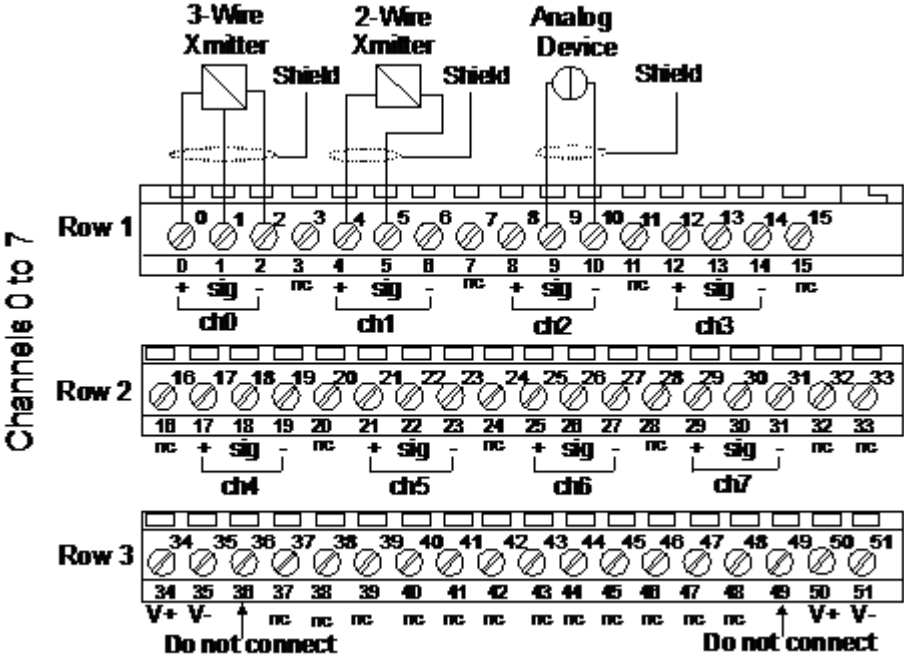

Figure 10: Typical Analog Input module connections.
- 1 Observing polarity, connect the leads from an analog input device in the current range of 0 to 22mA to the +, Sig, and - terminals for channels 0 to 7. The connection scheme is input source to the + terminal, input signal to the Sig terminal, and input return to the - terminal. Refer to Figure 10 for typical transmitter connections.
Do **not** use the unused terminals (3, 7, 11, 15, 20, 24, 28, 32, 37, 38, 39, 46, 47, 48) with an Analog Input module on this Terminal Base unit. Using these terminals for any purpose can result in damage to the module and/or unintended operation of your system (Figure 10).